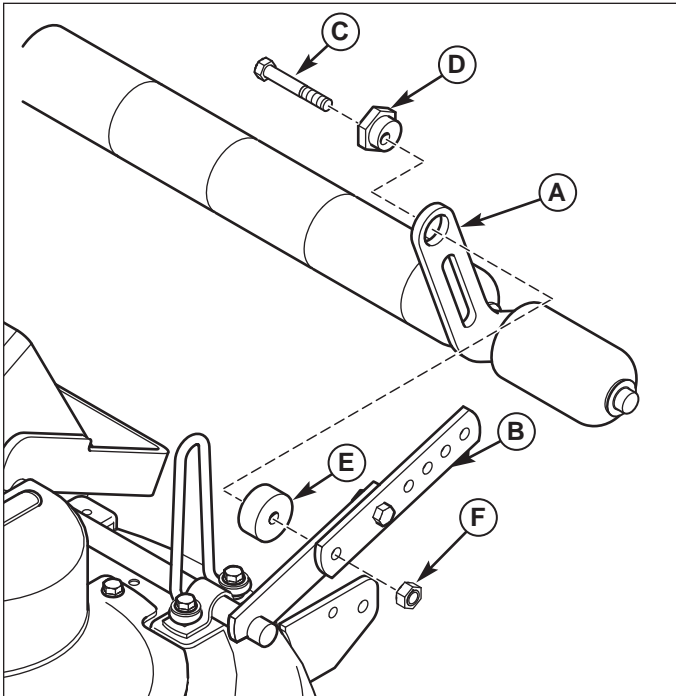

Figure 4. Install Roller Shaft Assembly
1. Attach the roller bar assembly (A, Figure 4) to the left side of the rocker shaft assembly (B) using a 3/8-16 x 2-1/2 capscrew (C), adjusting nut (D), spacer (E), and 3/8-16 security locknut (F). Once roller bar assembly has been properly adjusted, tighten nut to 40 ft. lbs. (54 Nm)